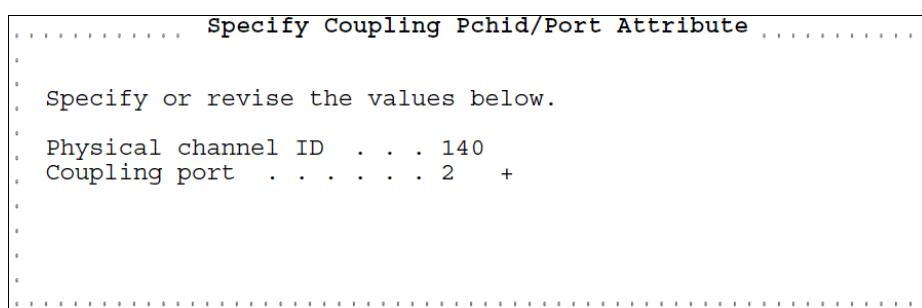

Figure 9-4 Specify port for CL5 on z14
5. In the Specify Coupling Pchid/Port Attribute panel (Figure 9-4), type for instance: port 2 and press **Enter**.